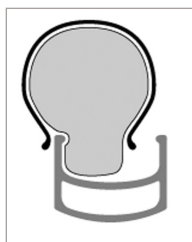

FIGURE 3.40
3. With a tire lever, lift one tire bead up and out of the rim (Figure 3.40). Start opposite the valve.